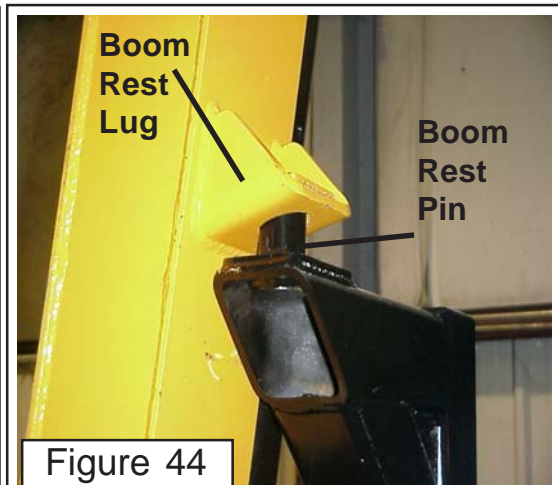

Figure 44
3. Swinging Boom, DO NOT Swing Boom until the boom has been run with it sticking out away from tractor and all electronic control adjustments have been done. The boom must be working smoothly. Slowly (with low engine RPM) with some one guiding you swing boom inward toward cab until the boom rest lug is aligned with the boom rest pin (See Figure 44). Set boom securely down over pin.